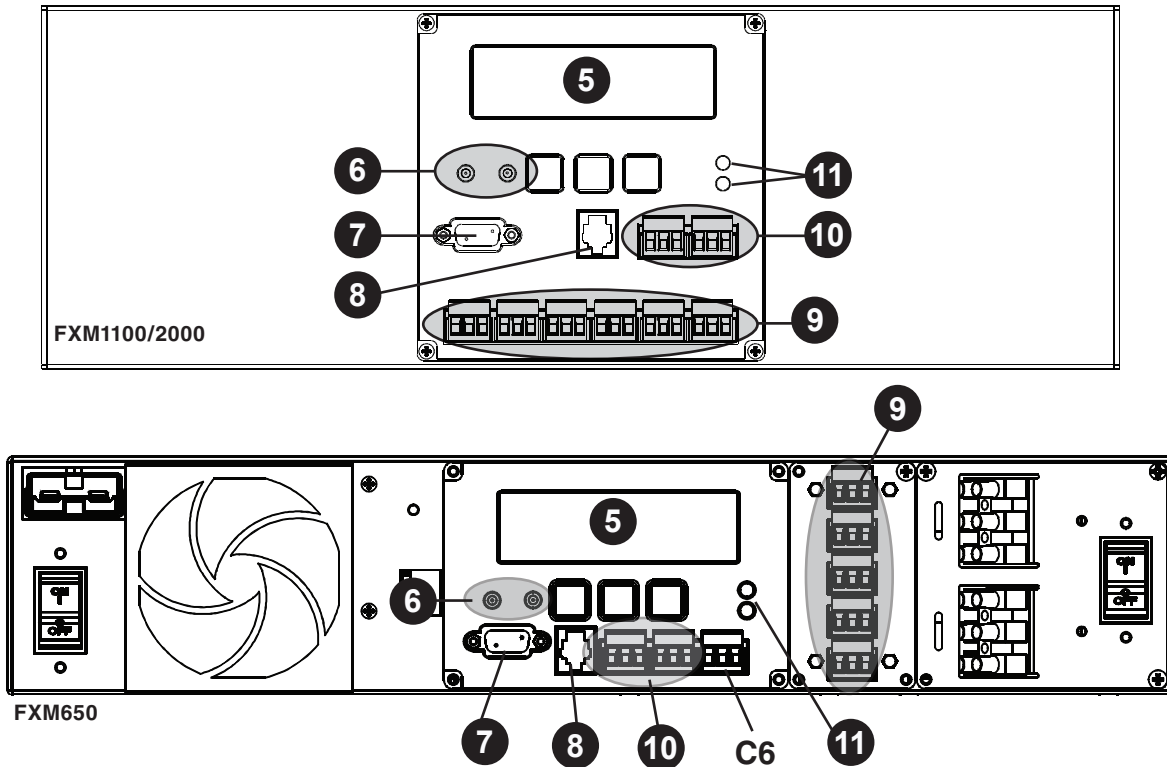

Figure 3.4 - Front Panel Description (cont'd)
1. Connect the temperature sensor to the FXM (Batt Temp connector **8** in Figure 3.4 on page 15). Attach the end of the battery temperature sensor to the side of the centre battery (See Figure 3.11).
- RS-232 port **7** in Figure 3.4
- Dry Contacts **9** in Figure 3.4
- User Inputs **10** in Figure 3.4